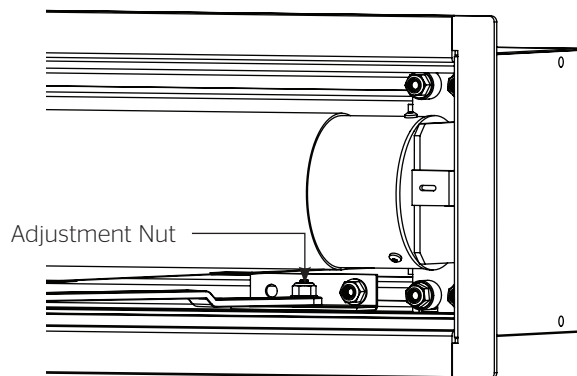

Figure 24
2. If the arms are not horizontally aligned loosen (but do not remove) the adjustment nut found inside the case behind the screen and roller assembly (Figure 24).